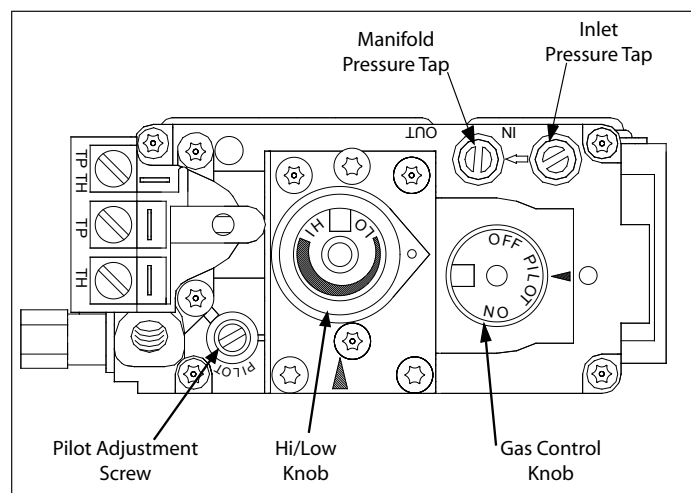

Figure 24: Fully labeled gas valve.
The pressure taps are located on the top right of the valve (see Figure 24).
1. Remove the Direct Vent chimney connector assembly by taking out the two (2) T-20 screws at the front of the unit. Push the assembly out from under the brackets at the back and remove (see Figure 24).